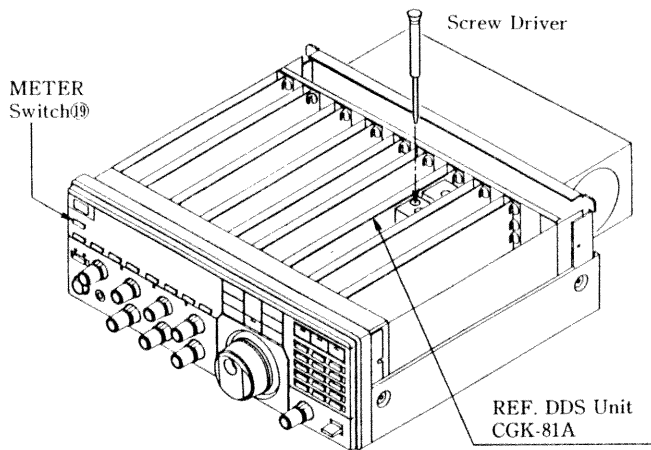

Fig. 7.6 Adjustment of Standard Oscillator
- (1) Remove the top cover according to 7.3 "Removal of Covers".
- (2) Do not disconnect the internal-speaker cable. If disconnection is required, connect an external speaker to the SP jack ⑫ on the rear panel.
- (3) Turn on the POWER switch ① and receive the standard frequency station (WWV, etc.) in the CW mode. At receiving tune up to 10-Hz digit.
- (4) While keeping the METER switch ⑰ pressed, adjust the trimmer on the REF-DDS Unit CGK-81A as shown in Fig. 7.6 to obtain the zero-beat.
- (5) Turn off the POWER switch ① and replace the top cover.